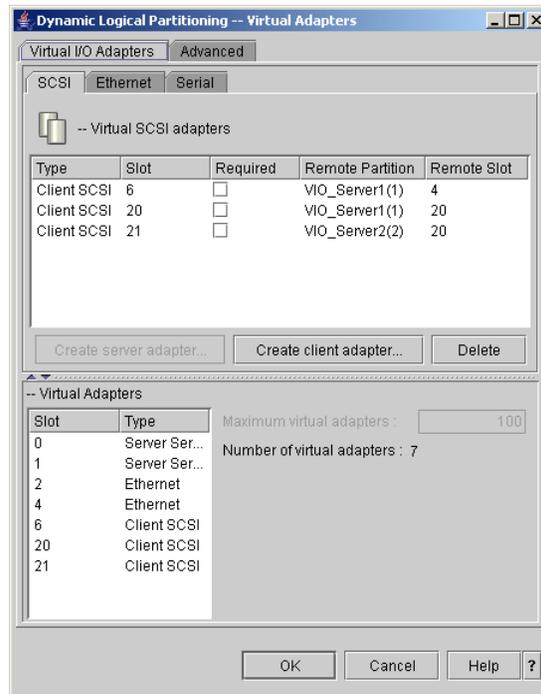

Figure 5-1 Dynamically adding virtual adapters window
2. The next window will look like the one in Figure 5-1. Click the **Create client adapter** button.